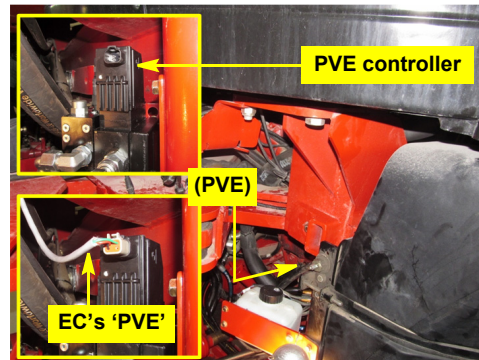

Figure 3f: Steering controller to PVE controller
- g. Locate the machine's PVE controller at the PVE block under the cab to the right of the articulation joint (Figure 3f and top inset). Connect EC's branch cable labeled 'PVE' to the machine's PVE controller (Figure 3f, bottom inset).